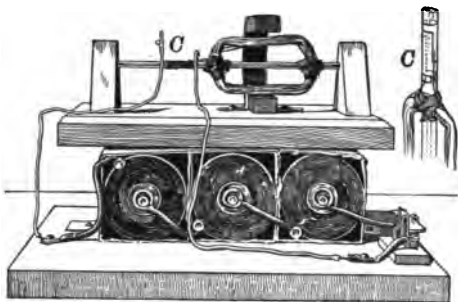

FIG. 38
What to use. Three dry cells connected in series, push button or switch, U-magnet, pliers, two pieces of No. 18 copper wire two feet long, screw driver, two pins, piece of capillary tubing six inches long, rubber tape, copper strips, ten feet of No. 24 magnet wire, and a wood frame shown in figure 38.
What to do. 1. Construct the apparatus shown in figure 38.
2. Connect the dry-cell battery to the two copper wires and close the switch. Hold the ends of the wires on the copper strips as shown at C in figure 38. Adjust the copper strips until the coil revolves rapidly on the pin supports.
Optional problems. Can you find a better design for a small model of a motor than that given in figure 38? Bring to school any motors you own, study their operation, make drawings, and explain the operation to the class. Can you make an electric generator of the motor used in this experiment? Study the motor shown in figure 119 of the text and find how to make a series, shunt, or compound-wound motor.